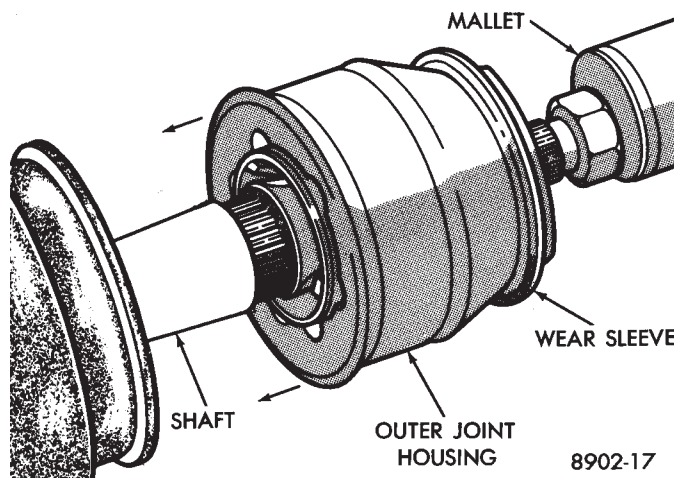

Fig. 20 Joint Installation
(7) Install the rubber boot on the axle shaft. Ensure the clamp sealing area is in the grooved section of the axle shaft. Install a new clamp.
(8) Engage the splines and install the joint onto the shaft. Tap sharply with mallet until seated (Fig. 20).